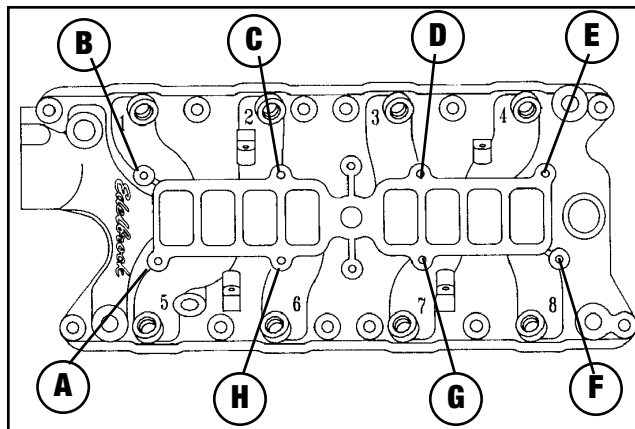

Figure 1 - Intake Manifold top-to-bottom faster locations
4. Install upper-to-lower manifold gasket (dry), fiber laminate spacer, another upper-to-lower manifold gasket, and upper manifold using hardware supplied (*see Figure 1 and Fastener Location Chart*). Upper manifold must be positioned so that the throttle body is on the passenger's side of the vehicle, not the driver's side.